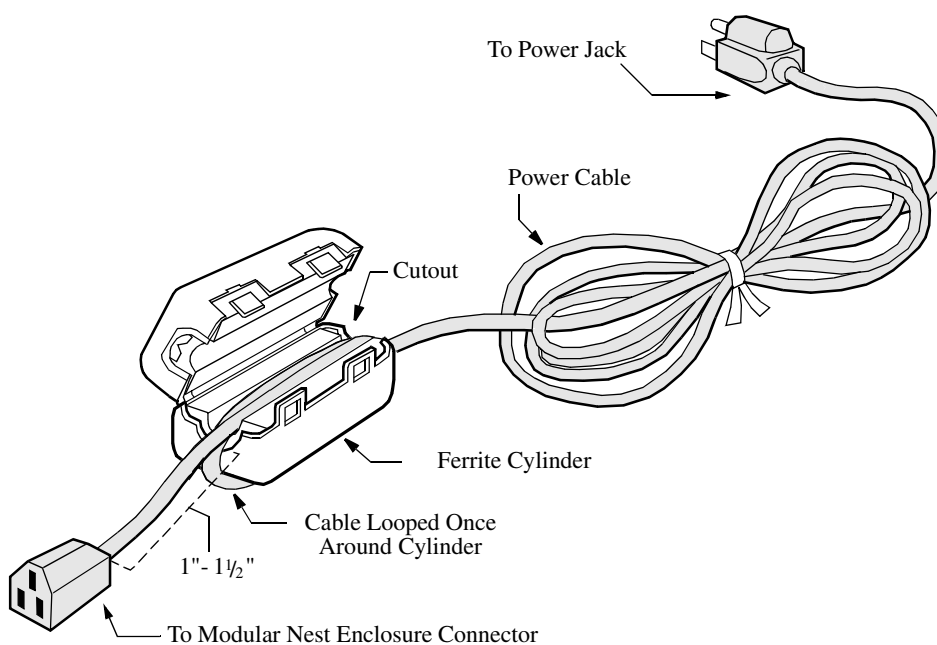

Figure 2-6. Installing a Ferrite Cylinder on a Power Cable
- 1) Snugly wrap the cable **once completely around** the cylinder (Figure 2-6).